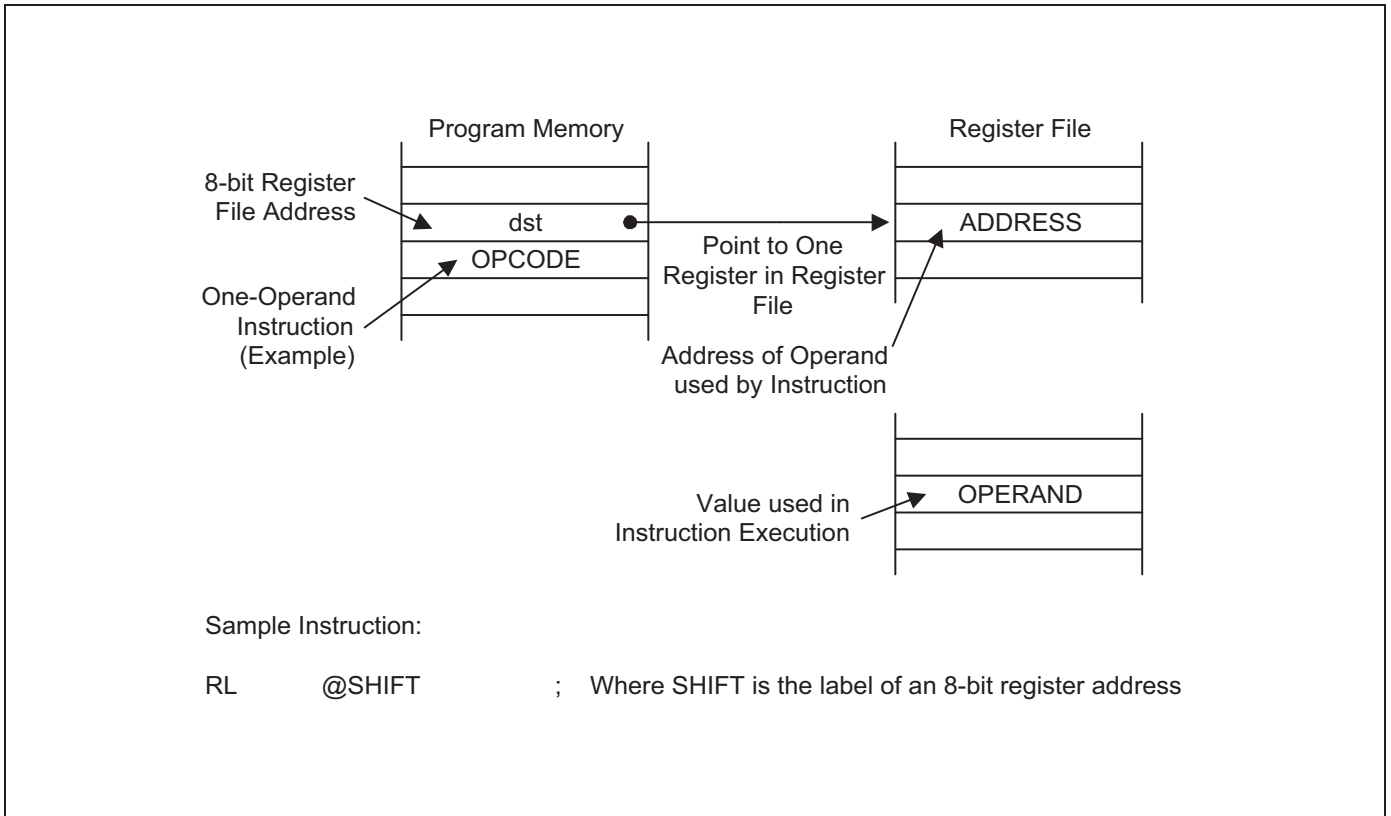

Figure 3-3 Indirect Register Addressing to Register File
3.3 INDIRECT REGISTER (IR) ADDRESSING MODE
In Indirect Register (IR) addressing mode, the content of a specified register or register pair is the address of operand. Depending on the instruction used, the actual address can point to a register in register file, to program memory (ROM), or to an external memory space (see Figure 3-3 through 3-6).